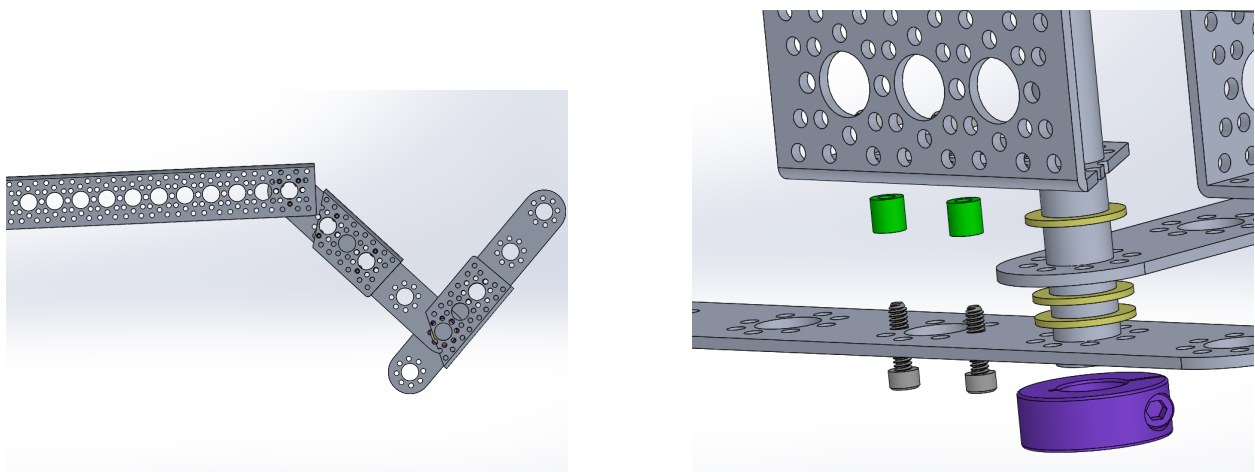

Figure 4: Start Rocker-Bogie pivot joint
1. **Begin the Rocker Attachment:** Attach 9 inch channel **S5** and the a modified 3 inch channel **S2A** to pattern F bracket **S7** using screws **B2** and hex nuts **B11** making sure to put a 6-32 washer **W1** in between the channels and the bracket. Make sure that the cut modification in **S2A** is angled towards the 9 inch channel as shown in Figure 4.
2. **Start the Bogie pivot joint:** Put rod **S18A** though the last hole in the pattern F bracket. Then, assemble the pivot joint by attaching another modified 3 inch channel **S2A** and another pattern F bracket using washers **W3**, collar clamp **S22**, standoffs **T1**, and screws **B4**. Make sure to use the 2nd from the bottom hole on the 2nd pattern F bracket. See Figure 4: